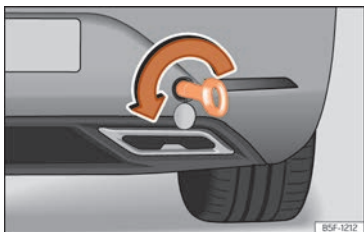

Fig. 55 On the right side of the rear bumper: towline anchorage in position.
- Screw the towline anchorage into the housing by turning it as far as it will go **anticlockwise** » **Fig. 55** » **!** Use a suitable object that can completely and securely tighten the towing eye in its housing.